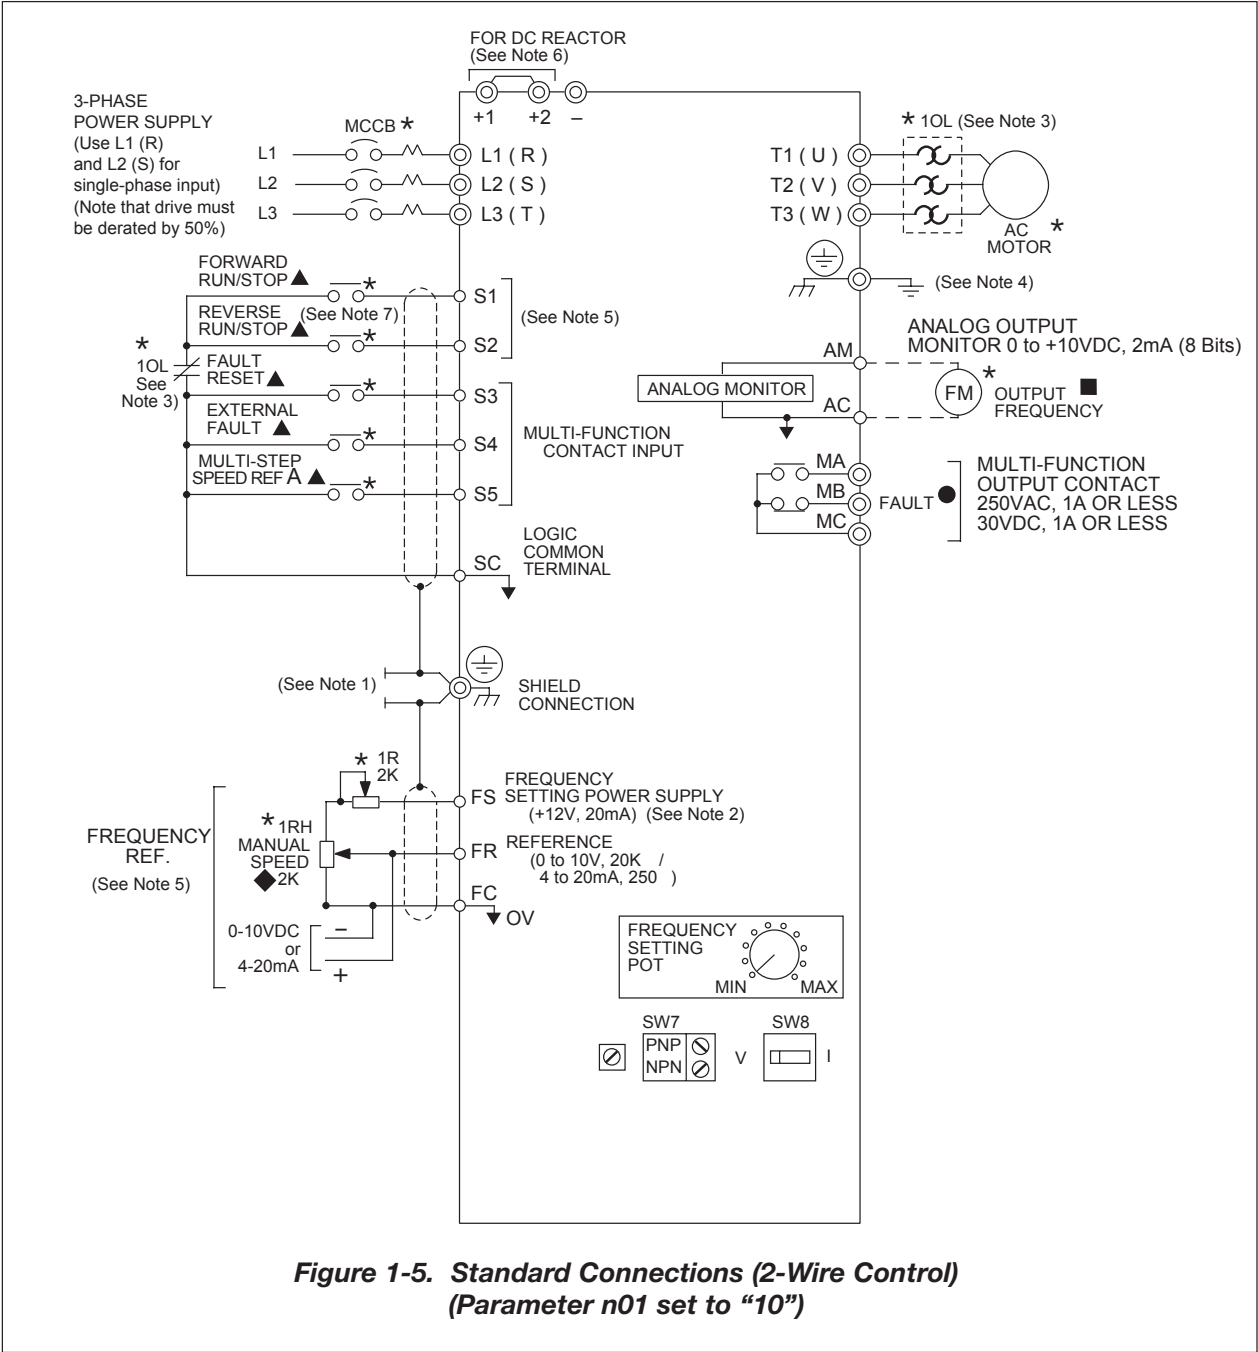

Figure 1-5. Standard Connections (2-Wire Control)
- Interconnections for external two-wire control in combination with the Digital Operator are shown in Figure 1-5 (for 230V or 460V rated drives).
NOTES FOR FIGURE 1-5